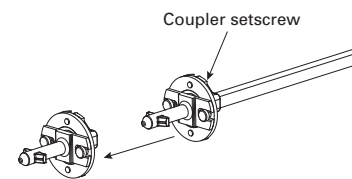

Fig. 1 Remove flange coupler
- Step 2** — Place the switch in the OFF position and open the enclosure door. Using an Allen wrench (3 mm for 8 mm shafts / 4 mm for 12 mm shafts), loosen the shaft coupler's setscrew and remove the coupler. See Fig 1.